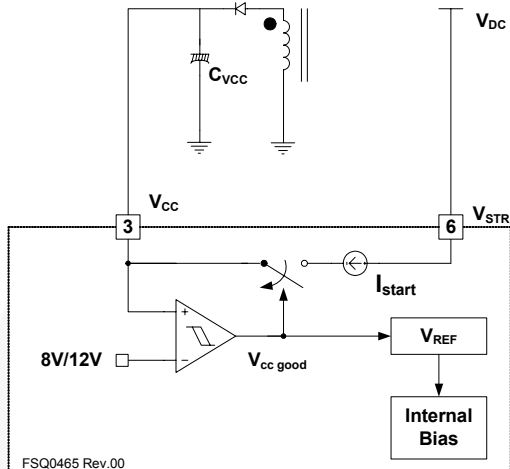

Figure 22. Startup Circuit
**1. Startup:** At startup, an internal high-voltage current source supplies the internal bias and charges the external capacitor ( $C_a$ ) connected to the VCC pin, as illustrated in Figure 22. When  $V_{CC}$  reaches 12V, the FPS™ begins switching and the internal high-voltage current source is disabled. The FPS continues its normal switching operation and the power is supplied from the auxiliary transformer winding unless  $V_{CC}$  goes below the stop voltage of 8V.